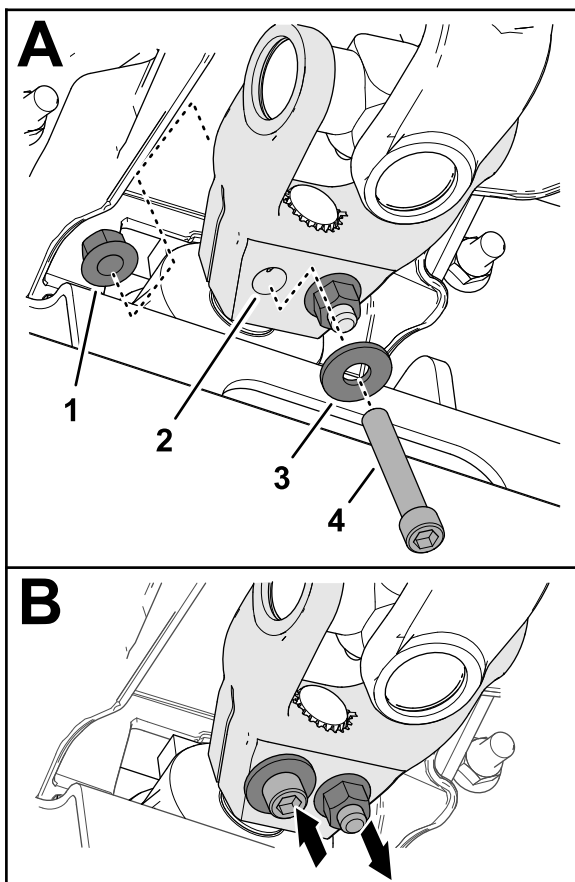

Figure 17
6. Assemble a socket-head capscrew (3/8 x 2-1/4 inches) through a washer (3/8 inch) and the hole in the driveshaft yoke (Figure 17), and secure the capscrew with a flange-locknut (3/8 inch).
7. Assemble a socket-head capscrew (3/8 x 2-1/4 inches) through a washer (3/8 inch) and the hole in the driveshaft yoke from the opposite direction (Figure 17), and secure the capscrew with a flange-locknut (3/8 inch).